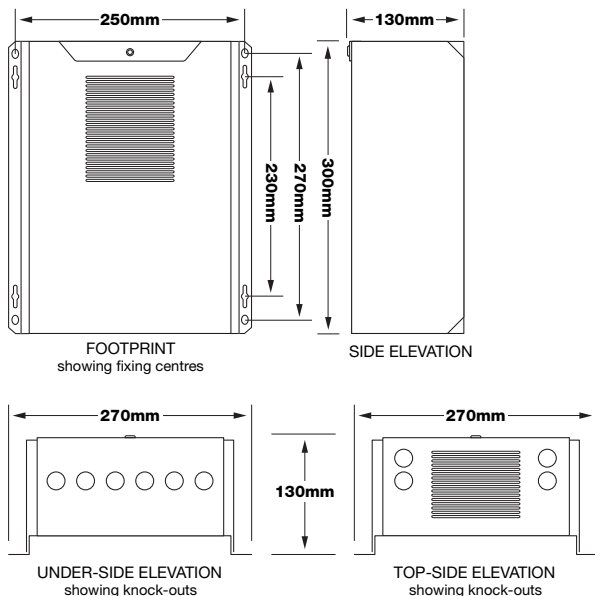

FIG 1. MULTI-OUTLET VOLTMASTER
Switch off mains electrical supply before commencing installation. Feed mains supply cable through cable clamp and connect wires into respective terminals in terminal block (Fig.1:J). VoltMaster must be earthed. To ensure the mains cable does not touch the transformer, avoid excessive cable inside VoltMaster.
Lamps up to the total max unit rating may be connected to the track, high wire or distribution box. Track is connected to the large terminal block (Fig.1:H, Fig 2:H) – which accepts up to 10mm2 cable.
Lamps are individually wired back to the individual multi-outlet terminal pairs (Fig.1:A). Each individual terminal pair will accept a single cable of up to 4mm2. Thicker cable or multiple cables could be terminated into suitable pin or blade crimps or junction box to facilitate connection to the terminal pair.
Feed the necessary cables to the luminaire(s) through the cable clamps if used. Securely connect cable(s) to appropriate terminal pairs (Fig.1:A/H). Tighten the cable clamps.
VoltMaster is supplied fitted with quick acting (ceramic) F10A fuses (max 75W per terminal pair) (Fig.1:K).
The analogue signal is connected to the terminals (Fig.1:C)
VoltMaster can be controlled by any Multiload RPS3 rotary control module, which connects to terminals **C1 C2 C3** (Fig.1:C). Maximum cable size 2.5mm2. Several VoltMasters may be connected to a single module.
It is imperative that the sensing cable (Fig.1:L) is connected on installation. Failure to connect this cable will cause the unit to deliver a reduced fixed secondary voltage to the luminaires.
Connect cable (Fig.1:L) into voltage sensing terminals (B) and the other end to the voltage sensing point. The sensing cable carries 11.8V (23.6V) RMS and hardly any current.
When the sensing cable is connected to a track, or similar, fed from the large terminals (Fig.1:H or Fig.2:H) we recommend sensing cables should be minimum 1.5mm2. Thinner cable can be used if suitably protected at the voltage sensing point.
Each individual multi-outlet terminal pair (Fig1:A) is protected by a 10A (F) fuse. If a short circuit occurs on one of the outlets, either the fuse will blow immediately or VoltMaster will shut down for 10-15 secs and then restart. If shutting down the fuse will blow in the process which allows the remaining outlets to resume operation.